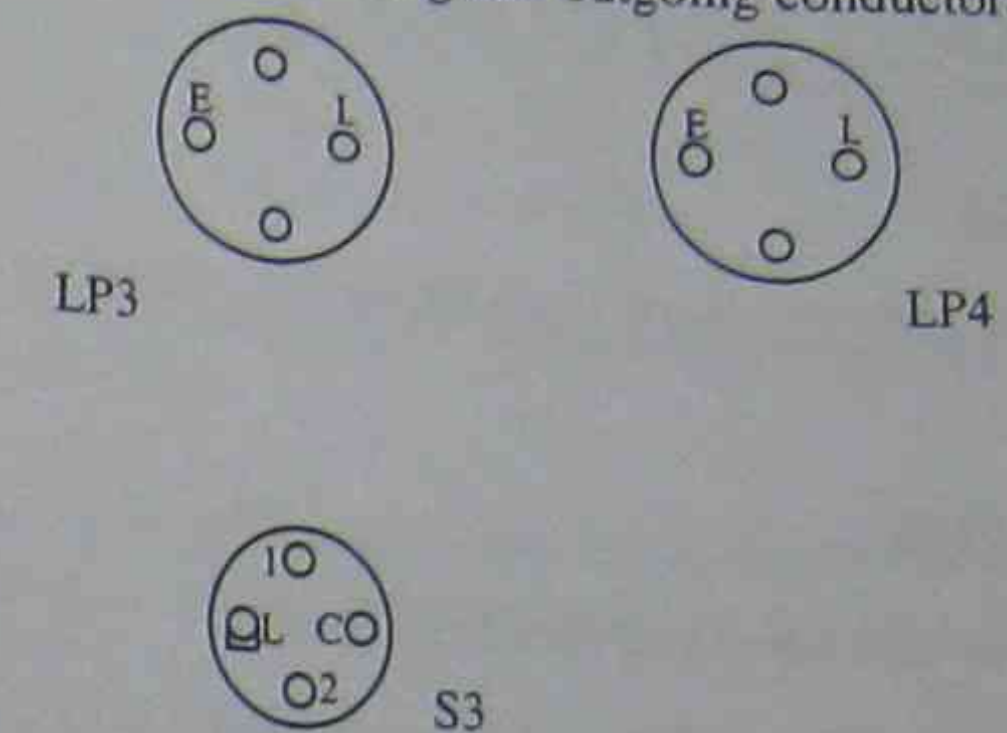

Figure 16 Wiring diagram for lighting points 3 and 4 and switch 3
5. Complete the wiring diagram of Figure 16 by drawing the connections required at lighting points 3 and 4 and switch 3. Also show the incoming and outgoing conductors.